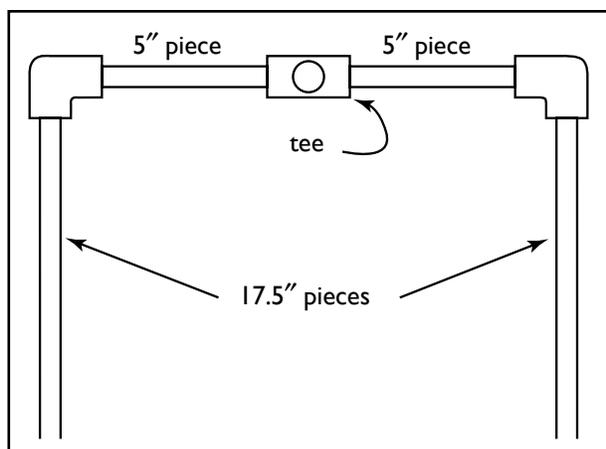

Figure 2: Stirrer support
- Assemble the tubing into the stirrer support and stirrer assemblies according to the diagrams in Figures 2 and 3 (below). Apply PVC solvent with the paint brush to the tubing at the joints, *except* where indicated. Note that the 1/2"-dia. tube is inserted into the tee of the stirrer, and held in place with reducers: this is the rotating piece of the stirrer—**do not use solvent on it!**